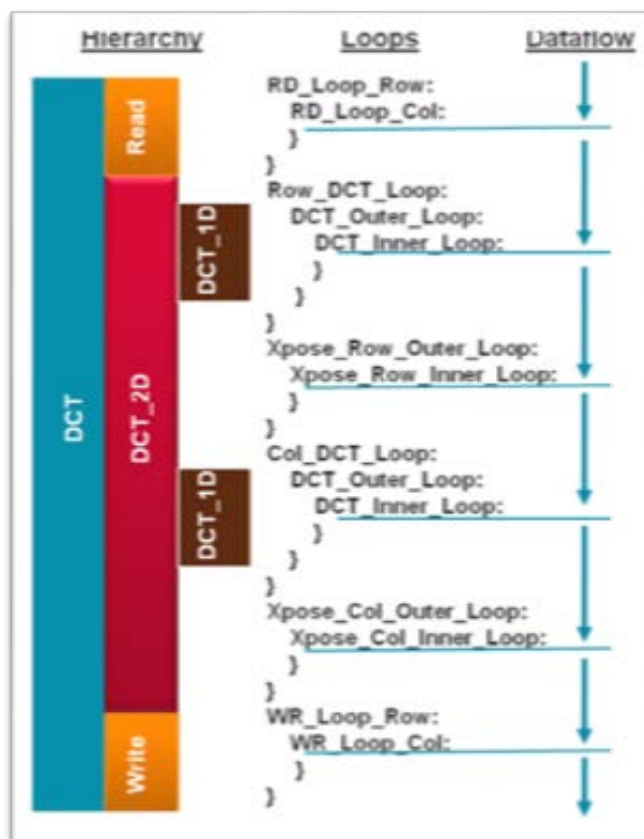

Figure 109: Overview of the DCT design
This example uses a DCT function. Figure 109 shows an overview of this code.
- The left side of **Figure 109** shows the code hierarchy.
- The center of **Figure 109** shows loops inside each of the functions.
- The right side of **Figure 109** shows the how the data is processed through the functions and loops.